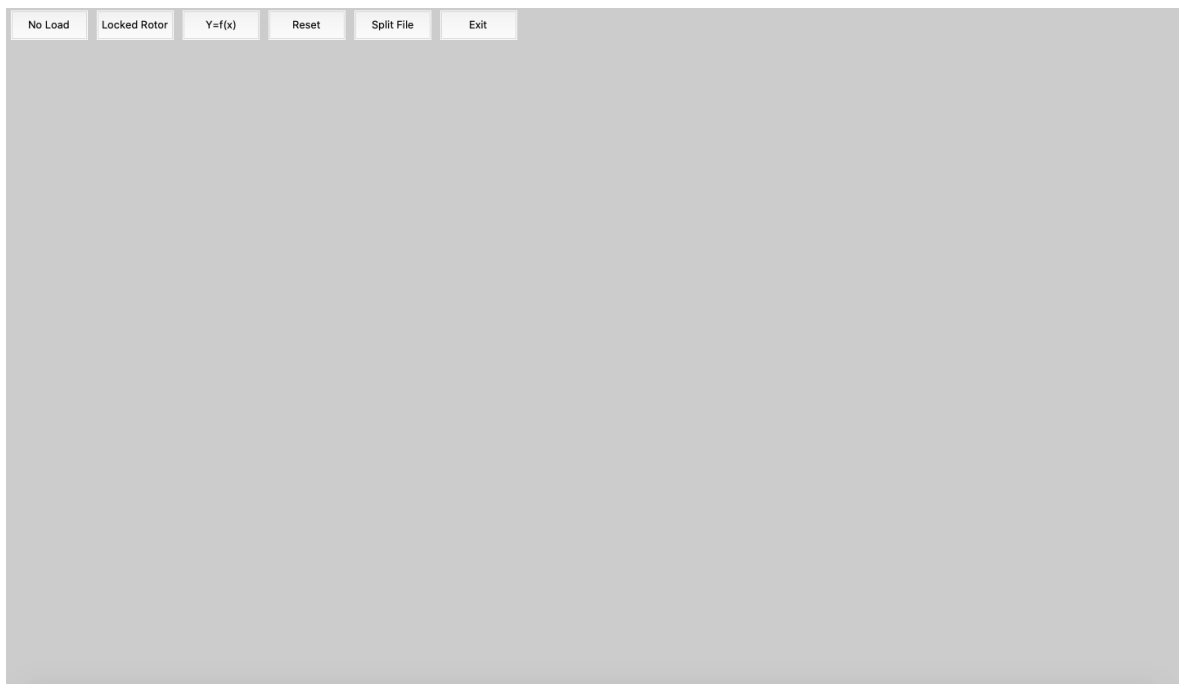

Figure 5.14: The Post-Elaboration GUI.
The Execution and Post-Elaboration interface are shown in the Figure 5.14.
3. **Reset:** Reset the Tool, re-starting from the interface shown in Figure 5.14